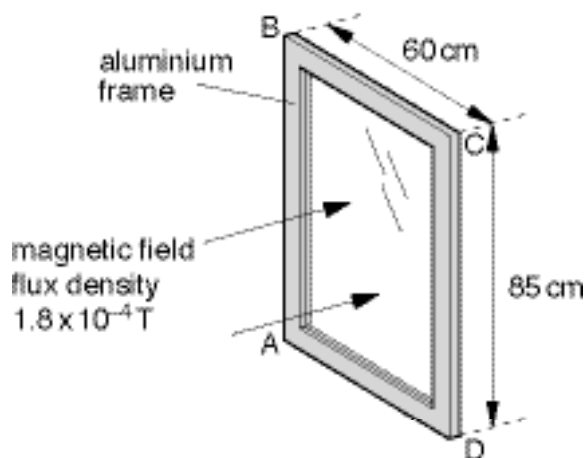

Fig. 5.1
- (b) The aluminium frame ABCD of a window measures 85 cm × 60 cm, as illustrated in Fig. 5.1.